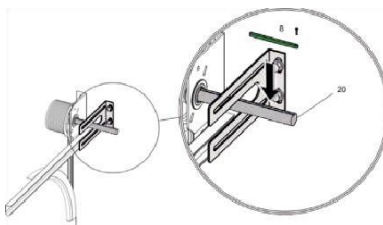

Fig. 2
Install the key in the groove of the drive shaft for the door so that is secured against movement in Fig2.
- Position the drive shaft for the door operator such that it is suitable for the position of the anti-twist device (key, position 8 in Fig. 2). To do this, turn the transmission via the emergency operation.
Slide the door operator onto the door drive shaft in Fig. 2. Secure the door operator with the 4 screws and washers.